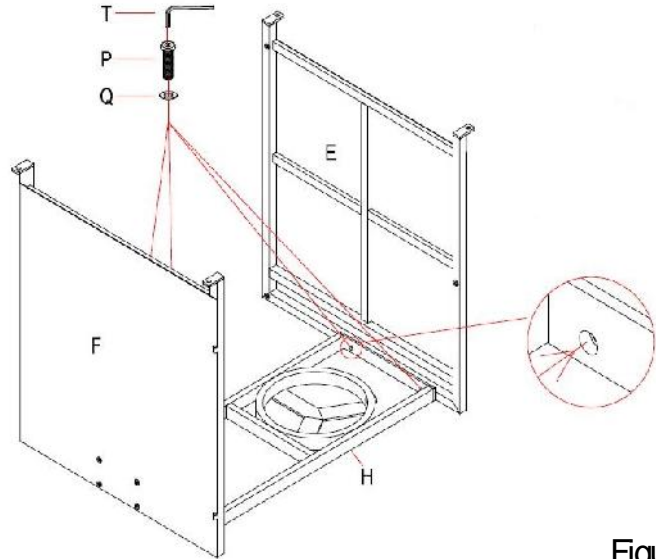

Figure 2
2. Attach the Gas cylinder support (H) to Right panel (E) and Left panel (F) with Bolt (P) and Washer (Q) by using the Hex screw driver (T), see Figure 2.